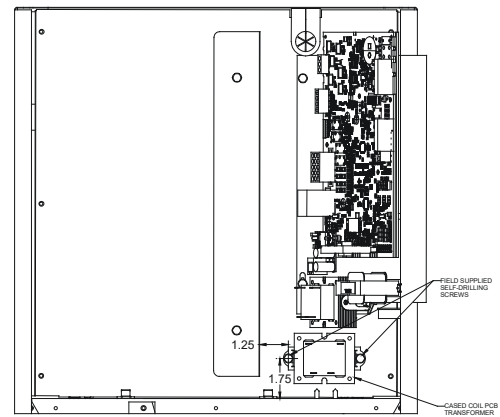

Figure 18
The PCB transformer can be assembled to the Furnace partition plate. Fasten the PCB transformer using (2) field supplied self drilling screws. Locate the transformer to the partition plate to the recommended location. See Figure 18. The transformer should be parallel to the edge of the heat shield. Self drilling screws should not be longer than 0.75" to prevent interference with blower housing.